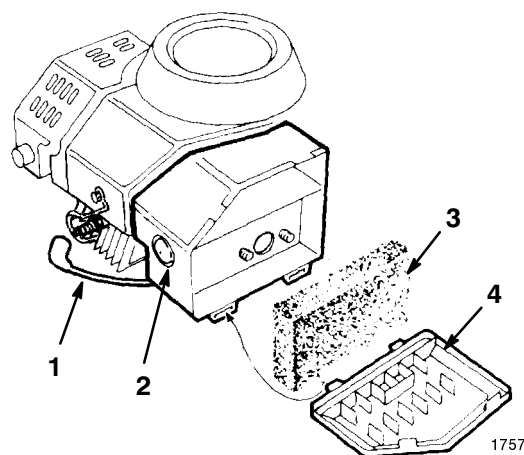

Figure 6
1. Insert the bottom tabs of the air cleaner cover into the slots (Fig. 6).
2. Rotate the cover upward and snap it into place (Fig. 6).
1. Connect the wire to the spark plug (Fig. 6).